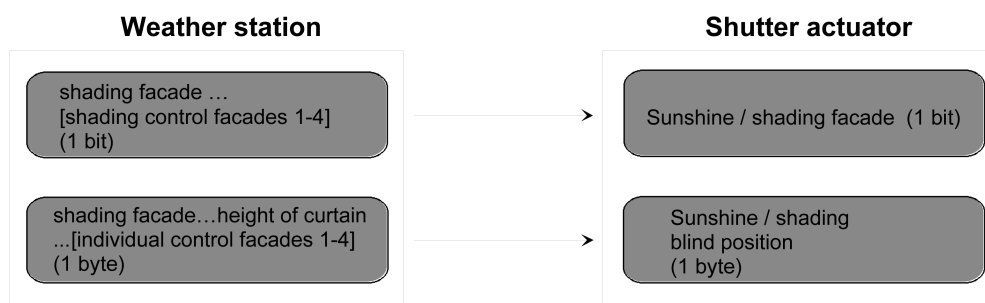

Figure 31: Programming of the communication objects for application example V
- fixed slat position setting.(figure 31)